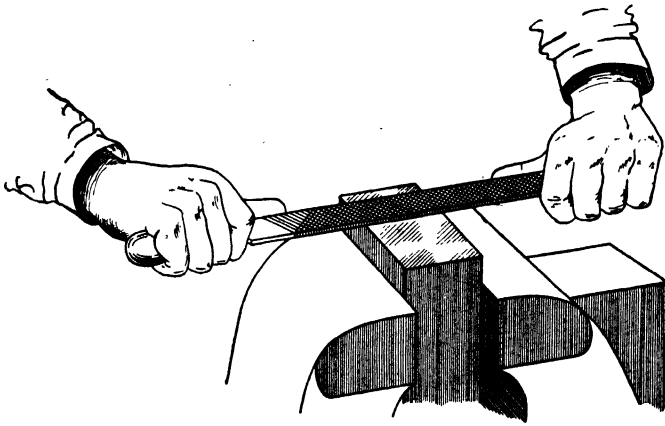

Fig. 8. Position of the Hands for Draw Filing
*Draw Filing.* The term draw-filing refers to the process of operating the file over the work at right angles to the length of file. To do this work properly, the file is grasped in the palms of both hands, as one would grasp the handles of a push cart, Fig. 8. The purpose of this method of filing is accuracy in the work. As the belly of the file can be brought to bear on the high spots under better control and with less oscillation than in cross-filing, a less skilled mechanic can obtain more accurate results. Of course, due to the fact that the cutting surfaces operate on a great angle, the amount of cut at each draw is far less than it is in cross-filing.